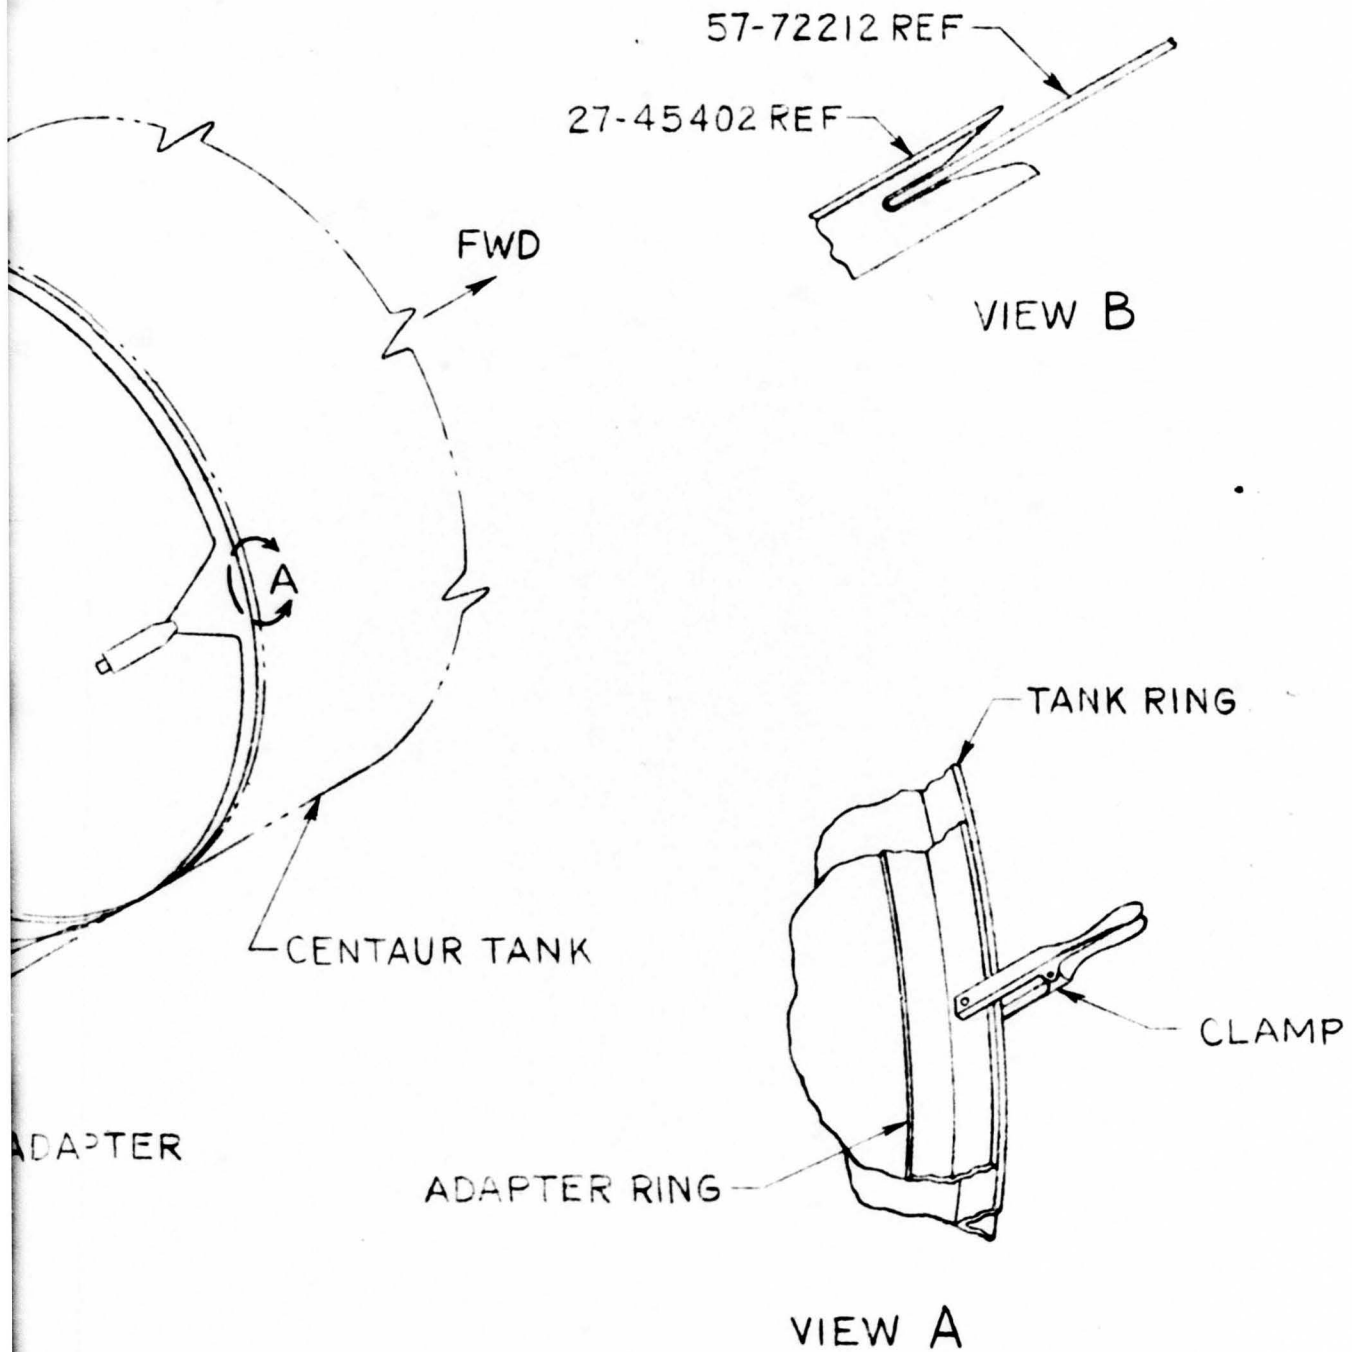

FIGURE 2
- c. Mate the Centaur tank and the first stage adapter so that the 57-72212 fittings are fully engaged with the 27-45402 latch assemblies (See Fig. 2).
- d. Clamp together the Centaur tank ring and the first stage adapter ring at station 408.72 at six (6) inch intervals for a peripheral distance of 18 inches on both sides of the centerline of each latch (Model P1200 Knu Vise-clamps or equivalent are suitable tools for this operation). (Fig. 2). Place clamps over separation springs (55-45002) or use .060 spacer between rings under clamps.